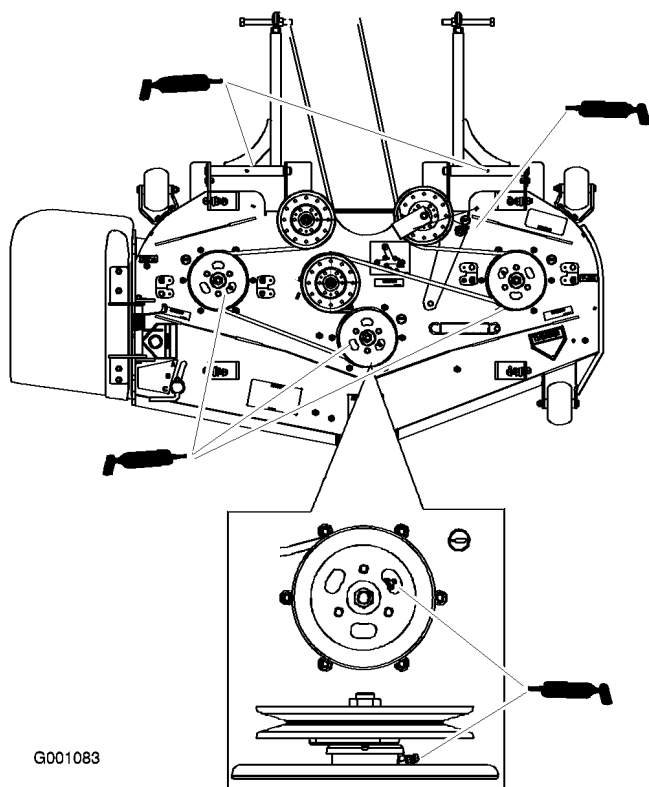

Figure 31
4. Grease the three spindle bearings under the pulleys until grease comes out the lower seals (Figure 31).
5. Grease the idler arm on the mower deck (Figure 31).
6. Grease the fittings on the push arms (Figure 31).